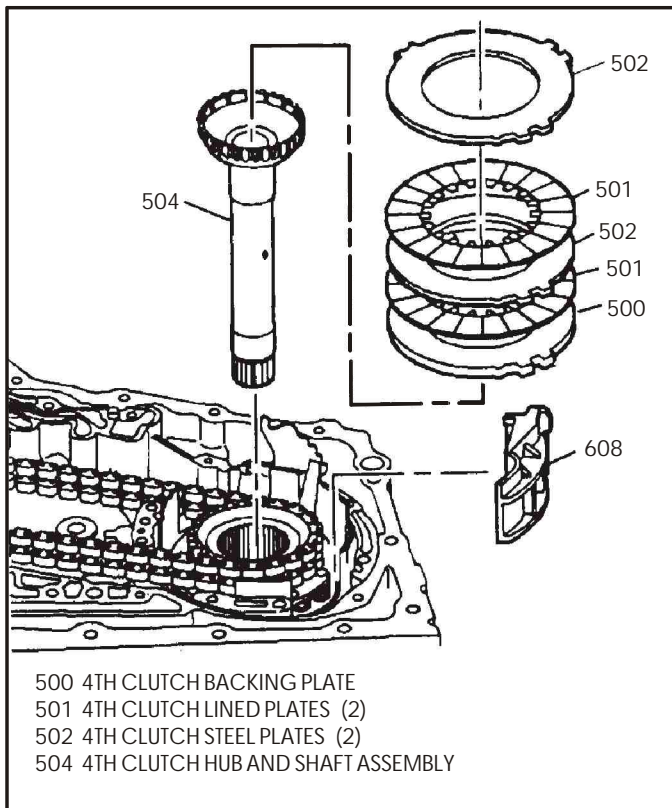

Figure 65
5. Remove the fourth clutch steel plates, fourth clutch lined plates and fourth clutch backing plate, as shown in Figure 65.
6. Remove the fourth clutch hub and shaft, as shown in Figure 65.
7. Remove the chain scoop (See Figure 65).